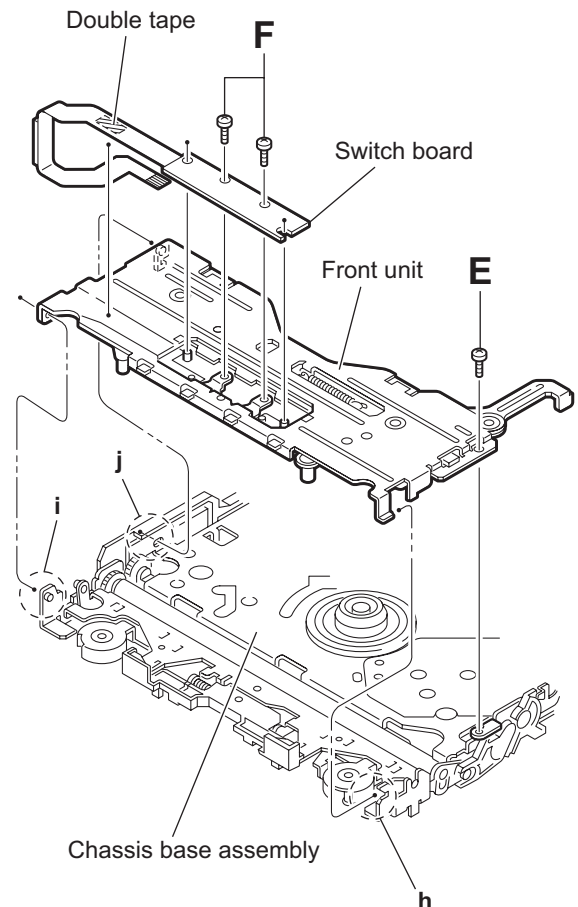

Fig.12
- (4) Remove the two screws **F** attaching the switch board. (See Fig.12.)